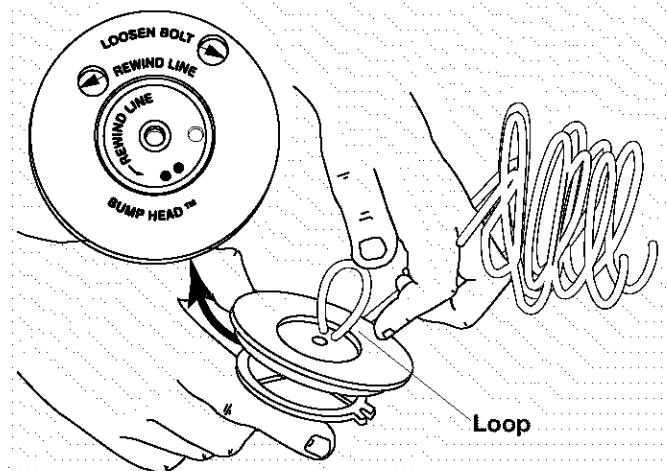

Fig. 31
1. Take approximately 40 feet (12.2 m) of new trimming line. Loop it into two equal lengths. Insert each end of the line through one of the two holes in the reel. Pull the ends through equally until the loop is as small as possible (Fig. 31).